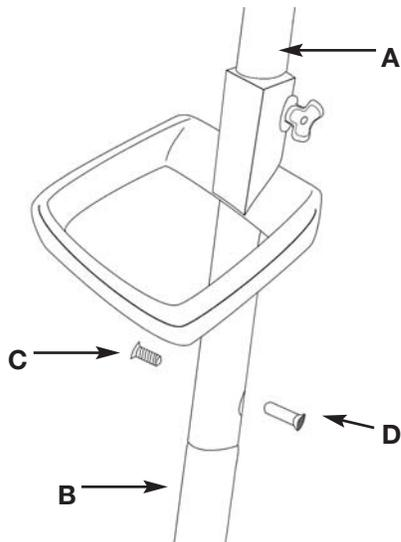

Figure 3
3. After sliding lower tube (B) inside the upper tube (A), line up the screw holes on each tube (Figure 3).